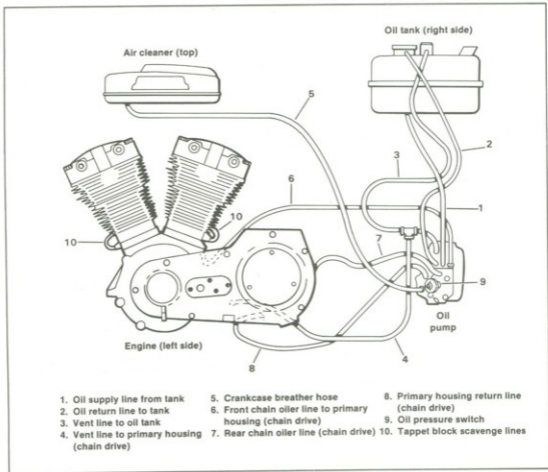

Figure 3-29. Oil Hose Routing — 1981 And Earlier
11. Install oil pressure switch (1).
12. Connect oil lines to pump. (Figure 3-29, 3-30). Oil hose connections use one piece band type clamps which cannot be reused. Use HOSE CLAMP TOOL, Part No. HD-97087-65A to squeeze new hose clamps tight.